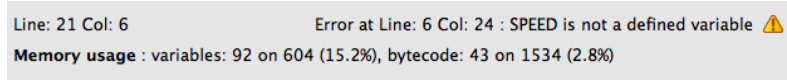

Figure 2: There is an error in your program.
2. Observe the message immediately below the Code Area, depicted in Figure 2. This indicates